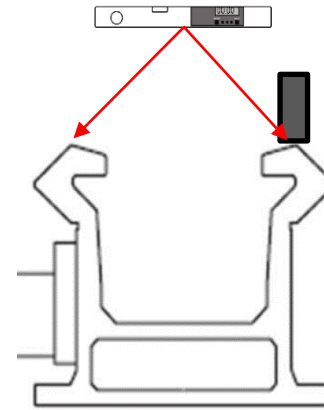

Fig. 1
- **Step 11.** Set the rotation sensor to zero as per fig.2 with a digital/hand clino on the feed slide bar as per fig. 1, with the bit in the up-hole position.